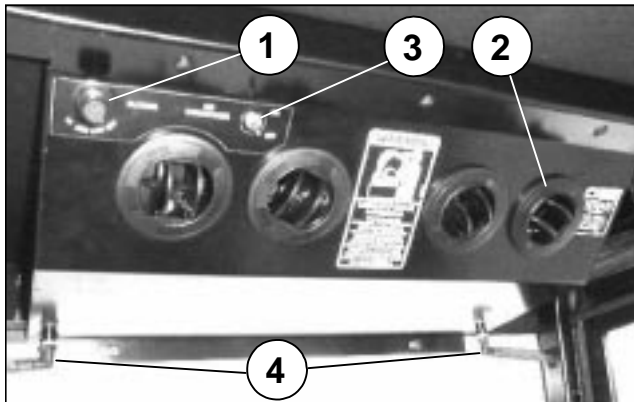

FIG. 1
**BLOWER FAN KNOB:** Controls the Blower Fan Speed. See FIG. 1.